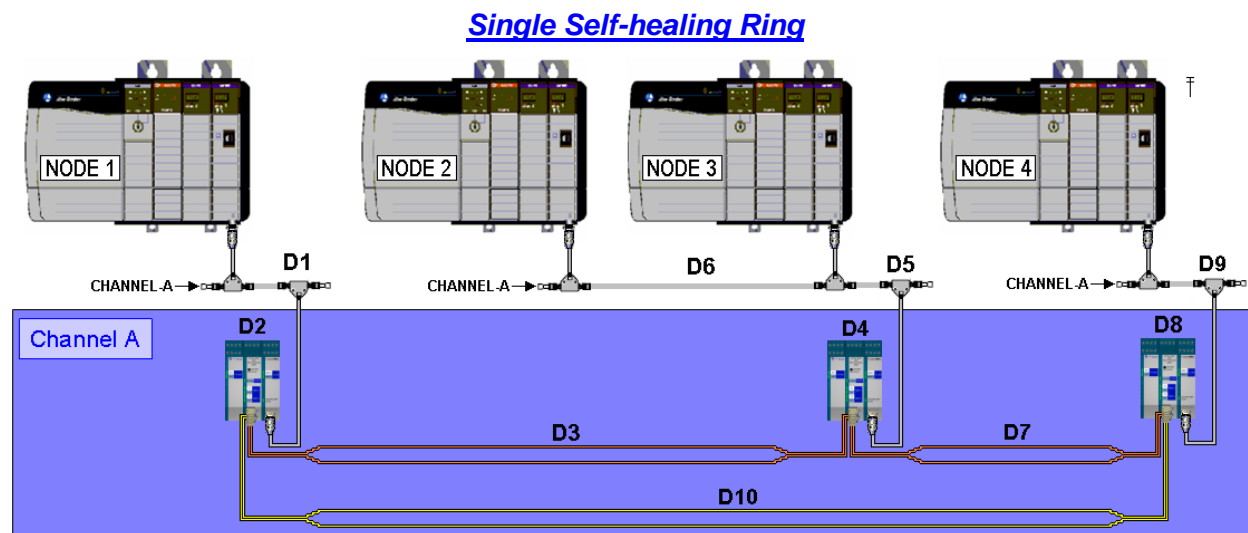

Figure 4-2: Example 1 – Single Channel Maximum Delay
The following example (Figure 4-2) shows a single-channel Self-Healing Ring network designed with both coax and optical fiber segments. Each delay in the network is marked D1 through D10. It is important to note that maximum delay time is based on the maximum number of ring modules and maximum length of the media used between the two nodes that are furthest apart from each other in the network system.
With ring networks, the physical media forms a physical ring of optic fiber. Data packets are transmitted in both directions around the ring. As shown in Figure 4-2, when Node-1 communicates with Node-2 it transmits the packet from the ring module marked D2 in both the clockwise and counter-clockwise directions. In this way, one of the 3 fiber segments shown (D3; D7; D10) can be broken, but communication will still continue.
However, one of the two paths shown in Figure 4-2, will be longer and two of the four nodes will be the furthest distance apart from each other. Worst case delay is calculated using only this longest delay path. This is to insure that the Network Update Time (NUT) has been calculated on the longest possible network distance no matter where the fiber breaks.
In a ring, since any two nodes will have two paths of communication between them; both must be calculated to understand which is the longest. Since Node-2 and Node-3 share a coax segment, only the node furthest from the ring (Node-2) needs to be calculated with the two other nodes (Node-1; Node-4). Node-3 is always closer (see Figure 4-2).
- Rule 2:** When your ring has no coax spurs, as opposed to the coax segment where Node-2 and Node-3 connect (shown in Figure 4-2), then there is virtually no coax cable to consider in the calculation. Simply remove the shortest fiber segment from the calculation. Add up the delays of the remaining segments and ring module delays and this is the path for your longest delay time.
- Rule 4:** Any device not directly connected to the ring, such as Node-2 in Figure 4-2, will not have a redundant path. If the coax cable marked D6 should break, Node-2 becomes isolated from the rest of the network. Another ring module should be added so that all four nodes connect to the fiber ring and insure a secondary path for all devices.